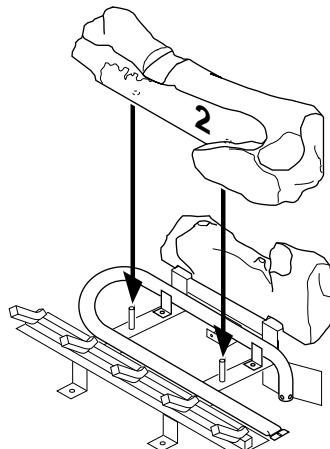

Figure 56 - Installing Log No. 2
2. Rest log #2 (large front log) on the pins on the front part of the grate (see Figure 56).